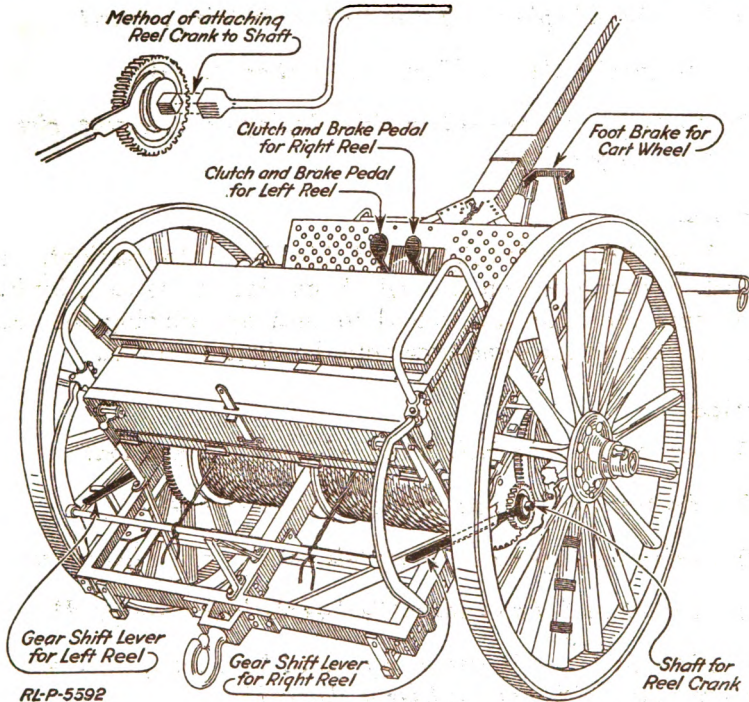

Fig. 22.—The wire cart, two-horse
1. Go to the rear of the cart and note the levers extending from the axle on both sides of the cart. (Fig. 22.) Take hold of the lever on the right-hand side, lift it up about half an inch and throw it to the left. Now try to move the reel on the right side of the cart by hand. Then move the cart so that the right-hand wheel will turn (this can be done by swinging the tongue to the left) and at the same time note the reel on the right-hand side.
8. Set the brake on the right of the driver's footboard. (See Fig. 22.) Dismount and try to move the cart by swinging the tongue to either one side or the other.
9. Take the crank from the compartment under the driver's seat. Fit it on one of the square shafts which will be found at the end of the gear shift lever on either side of the cart. (See Fig. 22.) Throw the lever to the position which allows the reel to spin freely. Turn the crank and note the action of the reel.